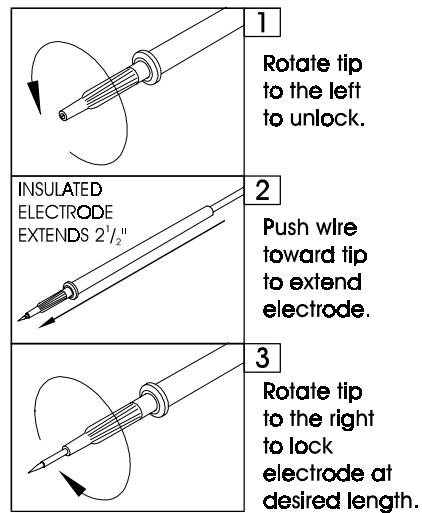

Figure 1-4. Adjusting the Probe Tips.
3. To compare two devices, connect the test terminal of channel A to the reference or good device. Plug the banana jack of a second test probe to the channel B test terminal. See Figure 1-4 for instructions on adjusting the probe tips. Connect the test probe to the suspect device. Connect the common lead to one of the COM terminals. Press the ALT button and set the speed at which channel A and B will switch by turning the RATE knob. The signature of Channel A will alternate with the signature of channel B for an easy visual comparison of the two signatures.